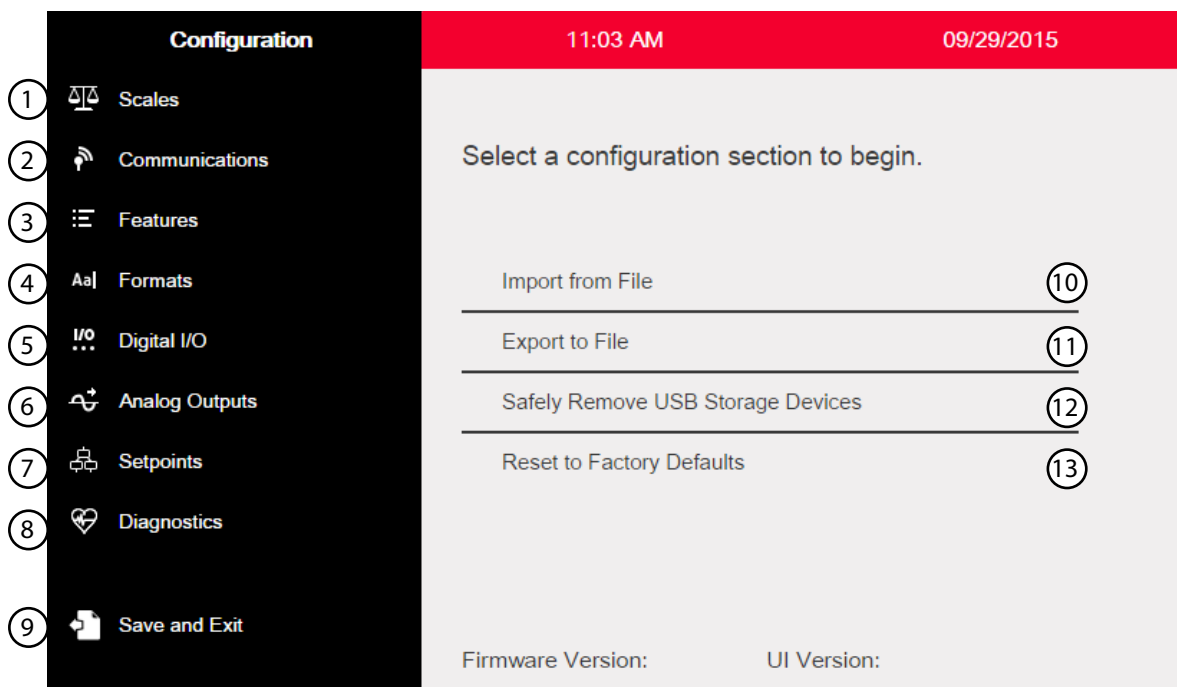

Figure 3-4. Configuration Menu
3. Access to the Configuration menu may be restricted with a password. If prompted, enter the password, then press . The Configuration menu will display. See Figure 3-4 on page 46.
- Access to the Configuration menu may be restricted with a password. If prompted, enter the password, then press **DONE**. The Configuration menu will display, see Figure 3-4 on page 46.